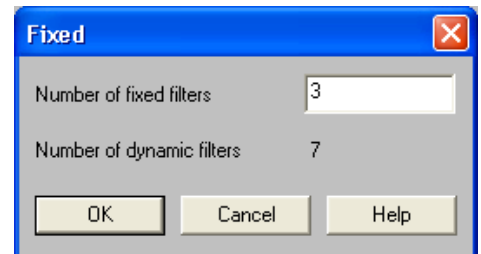

FIGURE 7-11: “Fixed” Dialog
2. The “Fixed” dialog appears, as pictured to the right in Figure 7-11.